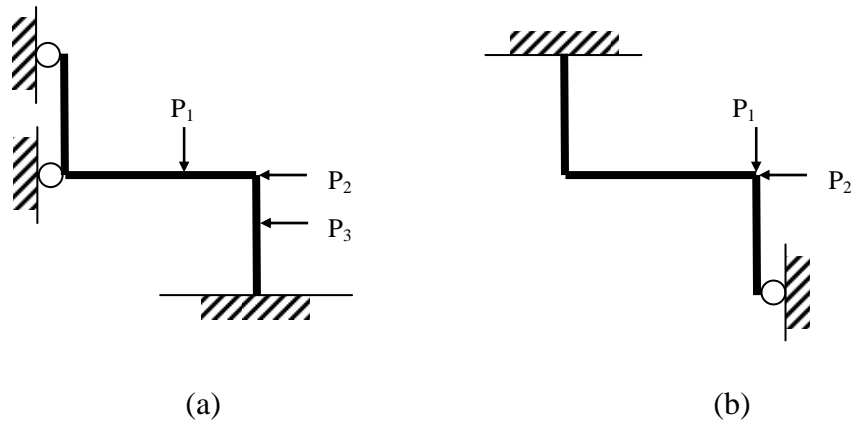

Figure 5
5. a) Sketch the possible types of plastic mechanism of the frame given in Figure 5(a) and (b). Name the mechanism, mark the plastic hinge location and label the angle of rotation as well as the displacement of the frame.